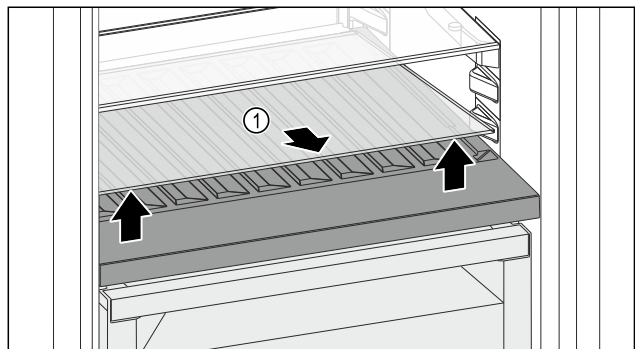

Fig. 208
- ▶ Lift the glass shelf Fig. 208 (1) at the front and remove.
- ▶ Store the glass shelf Fig. 208 (1) in a safe place outside the appliance.
- ▶ Insert the glass shelf (2) under the variable bottle rack.